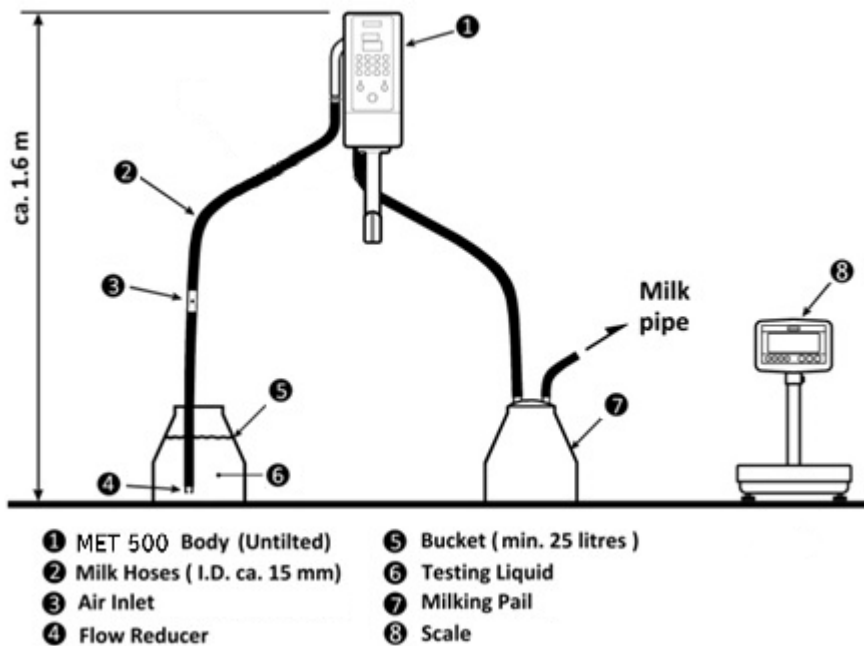

Fig. 1. Water test.
Required equipment (ref. Fig. 1 & Fig. 2)
- Milk hoses with a 15-16 mm internal diameter (refer the Fig.1).
4. Prepare for the test as figure 1.